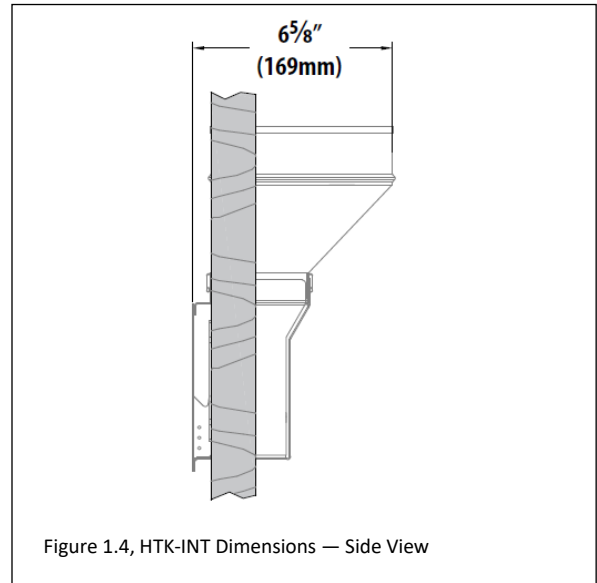

Figure 1.4, HTK-INT Dimensions — Side View
- **Figure 1.4** shows the depth of the supplied boot.